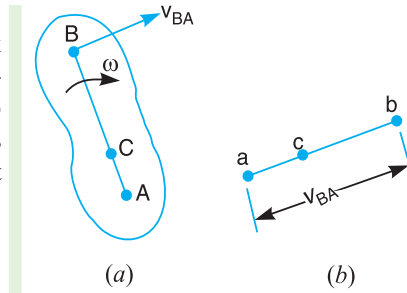

Fig. 7.3. Motion of a Link.
Consider two points A and B on a rigid link AB , as shown in Fig. 7.3 (a). Let one of the extremities (B) of the link move relative to A , in a clockwise direction. Since the distance from A to B remains the same, therefore there can be no relative motion between A and B , along the line AB . It is thus obvious, that the relative motion of B with respect to A must be perpendicular to AB .
The relative velocity of B with respect to A (*i.e.* v_{BA}) is represented by the vector ab and is perpendicular to the line AB as shown in Fig. 7.3 (b).